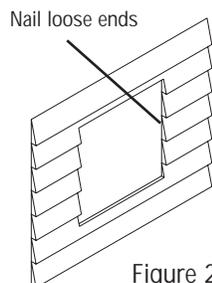

Figure 2
4. On the siding of the outside wall layout a 14-1/2" x 14-1/2" square with the small hole (drill in step 3) in the center. (fig 2)